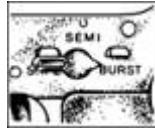

Figure 4. Selector lever in BURST position.
4. Check an M16A2 or M16A4 with the selector lever in the BURST position (Figure 4).